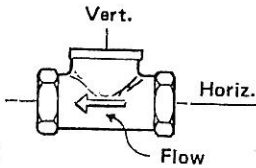

FIG. 1
- To obtain correct operation of the mercury bulb switches in the electric operation, MERCURY SWITCH models MUST be installed so that the valve STEM will be in an UPRIGHT POSITION. See Figures 1 and 2 for horizontal and vertical locations of straight and angle-type valve bodies. SOLID STATE SWITCH models may be mounted in any position, except DO NOT mount in positions or locations where leakage of water may damage electric circuits.